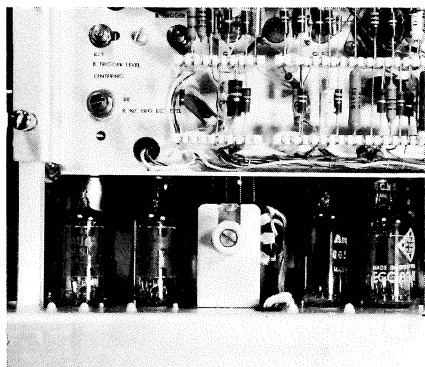

Figure 2
1. Adjust the -150 Adj. (R616-see Figure 2) for -150 volts as measured with a voltmeter. (see Figure 3)